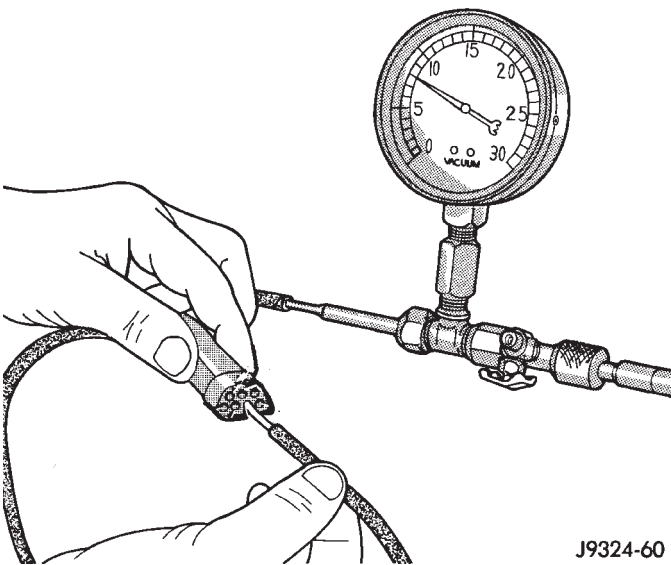

Fig. 10 Vacuum Circuit Test
(1) Disconnect the vacuum harness connector located between the heater-A/C control and the heater-A/C housing under the instrument panel.
(2) Connect the test set vacuum hose probe to each port in the heater-A/C housing half of the vacuum harness connector, one port at a time, and pause after each connection (Fig. 10). The test set gauge should return to the 27 kPa (8 in. Hg.) setting shortly after each connection is made. If OK, replace the faulty heater-A/C control. If not OK, go to step 3.